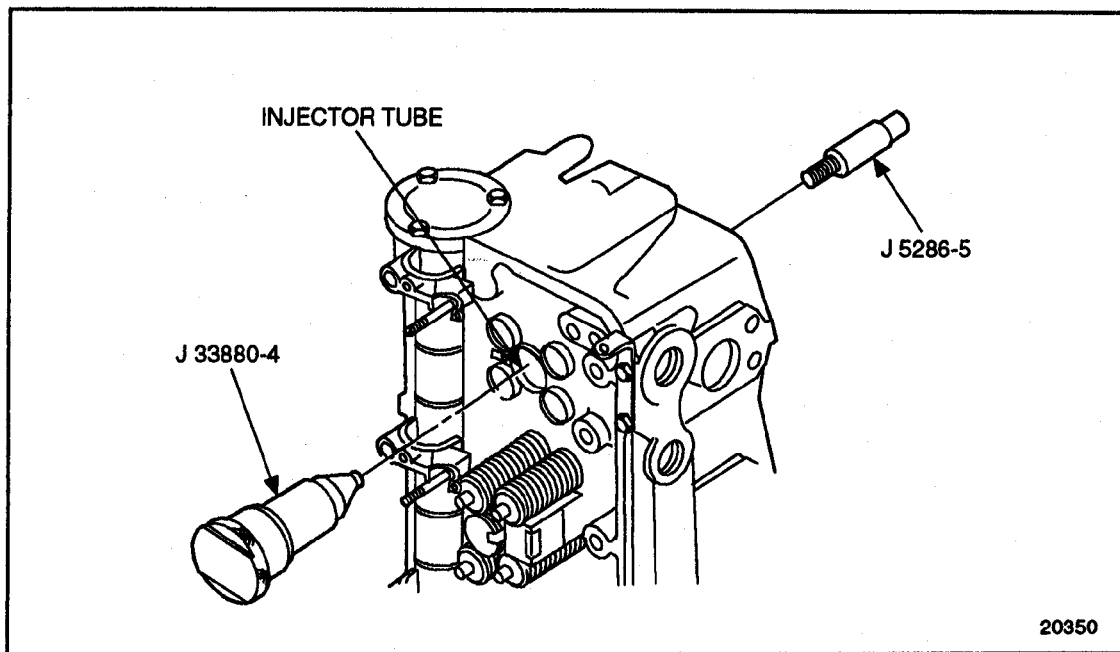

Figure 2-14 Removal of Injector Tube
2. Place J 33880-4, in the injector tube. Insert J 5286-5, through the small opening of the injector tube and thread the pilot into the tapped hole in the end of the installation/removal tool. See Figure 2-14.